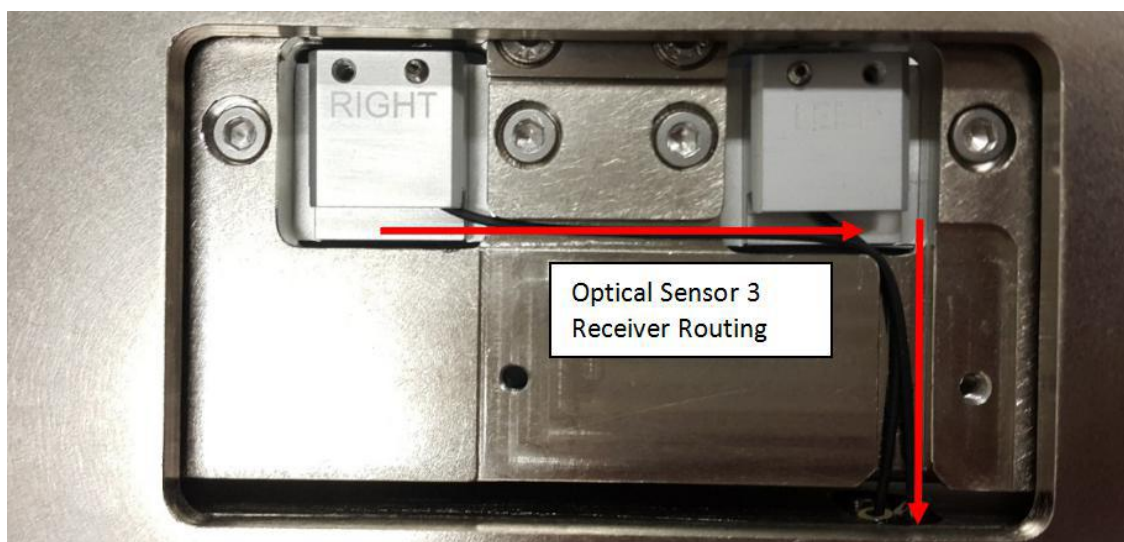

Figure 41 Optical PIP Sensor 3 Routing
6. The routing for Optical PIP sensor 3 Receiver is as shown in Figure 41.